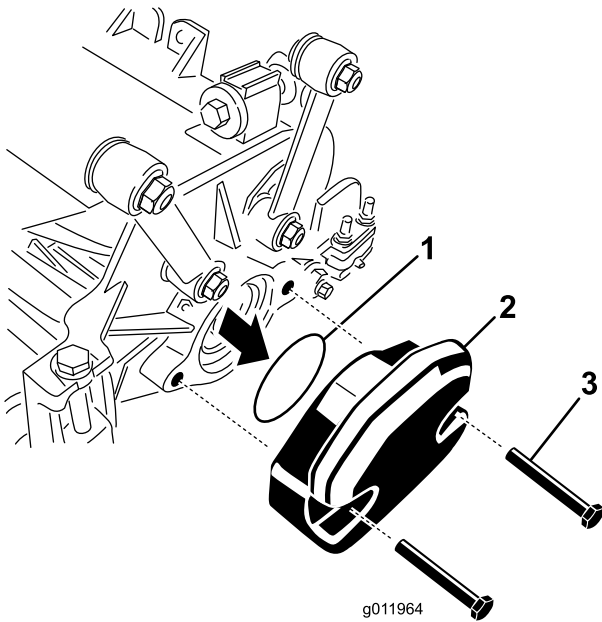

Figure 23
2. Remove the weight and O-ring (Figure 23) from the inside end of the right hand cutting unit.